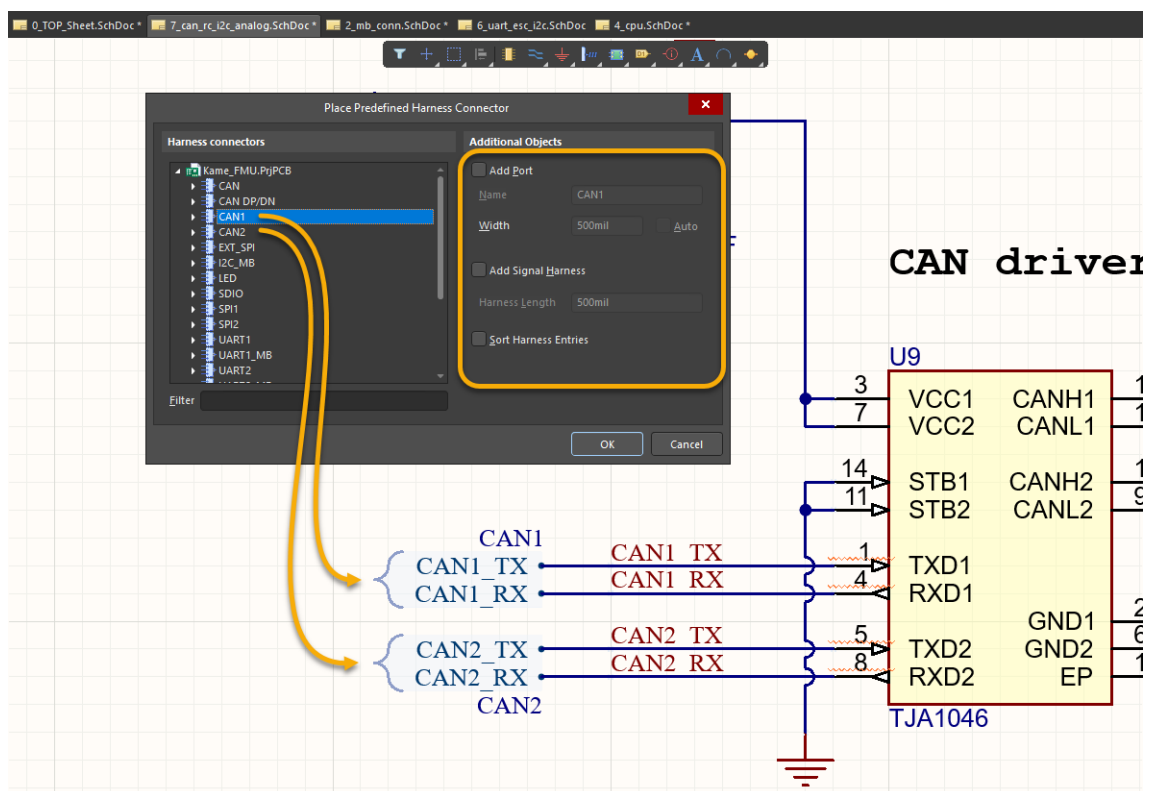

Figure 17. Page `7_can_rc_i2c_analog.SchDoc` with two CAN harnesses
44. When the *Predefined Harness Connector* window appears, use the information below, using Figure 17 as a reference, to assign the following settings:
46. Place it onto the respective CAN1 wires as shown in Figure 17.